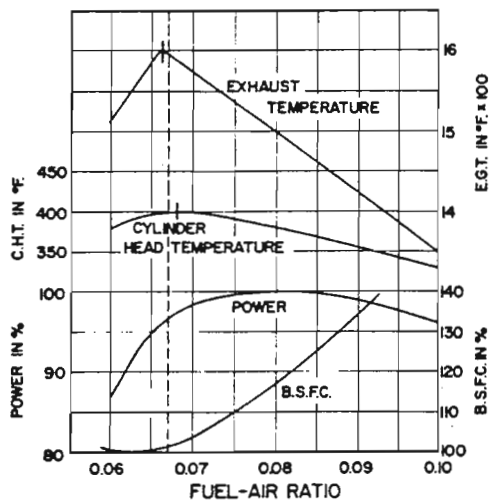

Fig. 1 - Effect of fuel-air ratio on engine variables
2. No special plug cleaning procedure is suggested or required. Adjusting the mixture by EGT gauge as recommended by the engine manufacturer produces good results. Figures 1 and 2 help explain the recommendations and why they are to be followed.